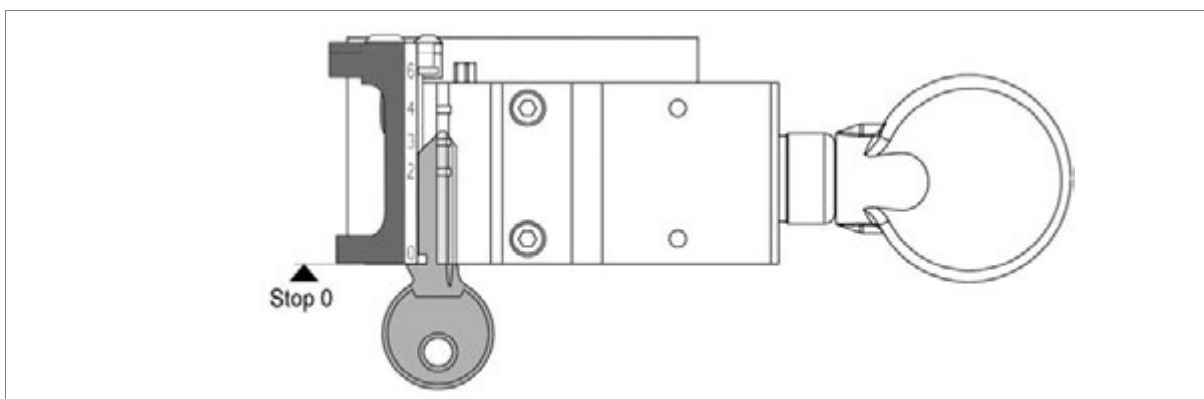

Fig. 57
- 7) Fit the key/template Z3 into the clamp, making sure the back is well aligned on the bottom and the key stop is all the way up against position "0" (fig. 57).